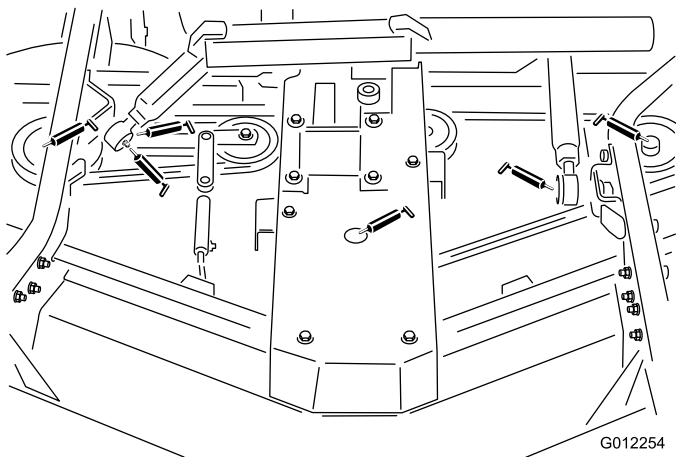

Figure 17
- Blade spindle bearings (Figure 17)
- Idler arm pivot (Figure 17)
- Right and left push arm ball joints (Figure 17)